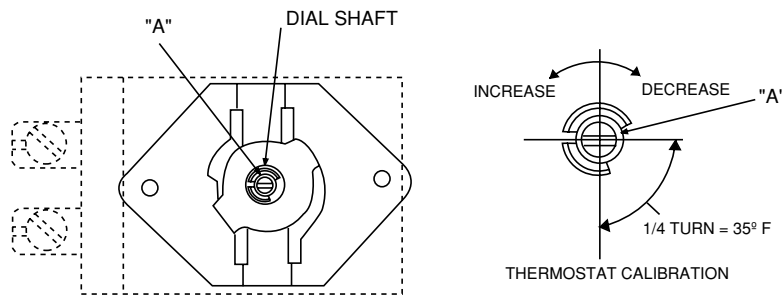

Fig. 6
4. Pull dial straight off dial shaft without turning (Fig. 6).
5. Turn screw "A" clockwise to decrease temperature and counterclockwise to increase temperature (Fig. 6); 1/4 turn of Screw "A" represents a temperature shift of 35°F.